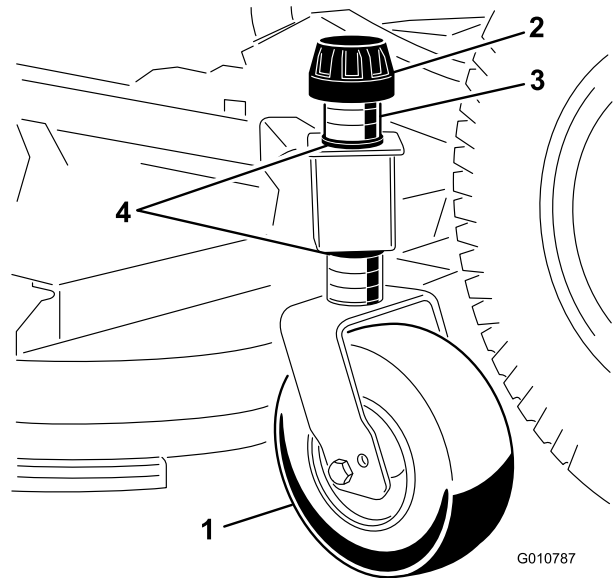

Figure 10
1. Remove the tensioning cap securing the gage wheel to the cutting unit brackets (Figure 10).